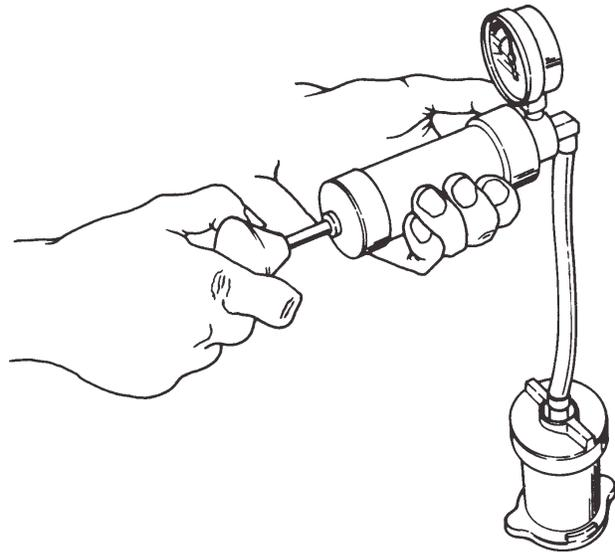

Figure 1-9. Pressure Cap Test.
5. Hold Tester with gage facing you as shown in Figure 1-9.
(Figures 1-9 & 1-10)
Stop pumping when the valve opens and read the gage (See Figure 1-9) as follows: The gage hand must be within the proper color band for